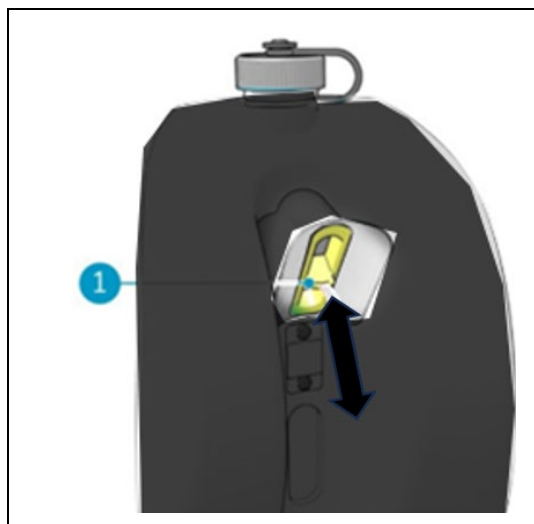

Figure 35
13. Place the ball float shutoff assembly back in the recovery tank (Figure 35). Make sure that the support frame and rubber housing sit flush on the tank and seals it.